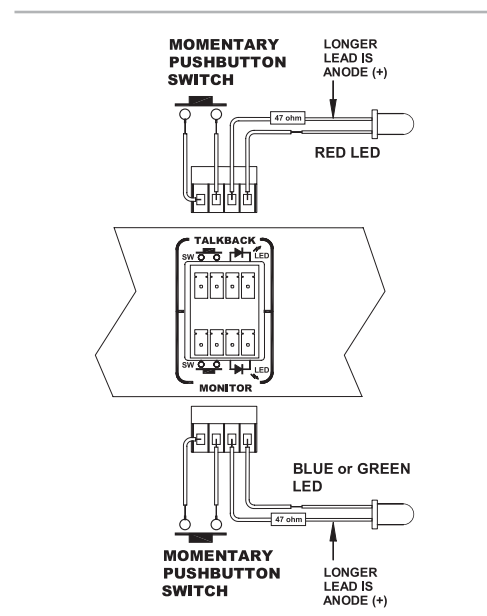

Figure 2
- 12 Wired Remote:** Connect talk back and Monitor A/B select switch contacts and LED indicators here. See figure 2 for details.
5. If wired remote control(s) are desired, connect the wired remote control connections to the rear panel (see Figure 2 for details).
In the event the user desires to design a custom remote, 24 to 18 AWG stranded wire should be used to connect remote controls, as shown in Figure 2.